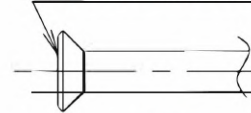

Fig. 7
- When making a flare connection, coat the flared inner surface only with ether oil or ester oil. (Refer to Fig. 7)